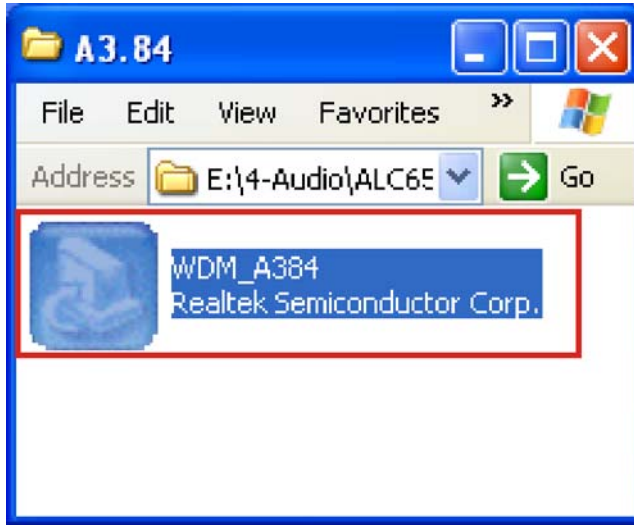

Figure 7-20: Audio Driver Options
Step 49: Browse to “E:\4-Audio\Windows\Windows 98Gold, 98se, Me, 2000, XP, 2003(32,64 bits)\A3.84” Double-click the installation file in Figure 7-20.